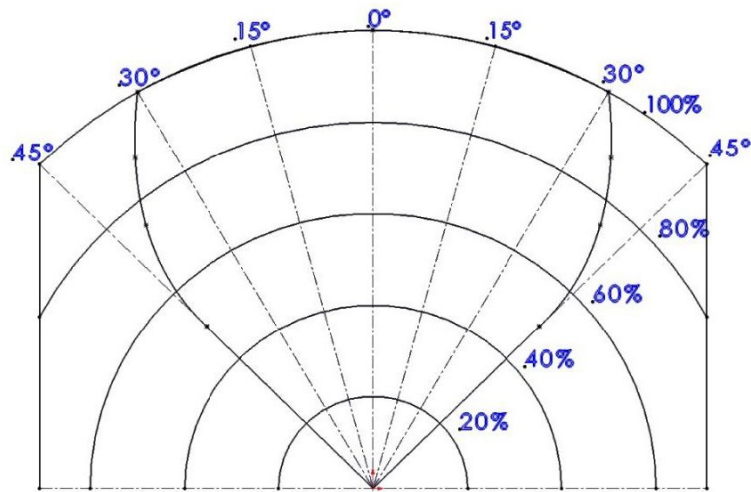
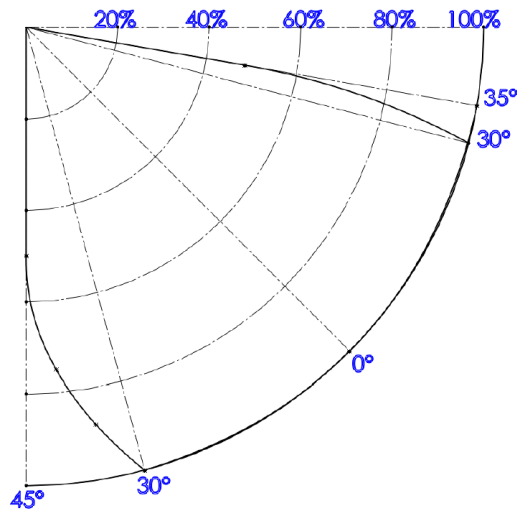

Figure 11 : - Horizontal field of view, 90°
Figure 12 : Vertical field of view, 80°
- ⚠ The field of view of the detectors (See Figure 11 and Figure 12)